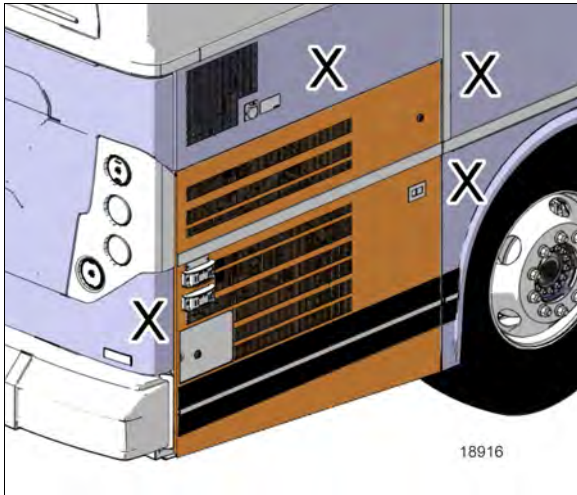

FIGURE 95: FLUSHED SURFACES
11. Adjust the both rubber stoppers to make all the surfaces marked with an "X" in Figure 95 flush with the door surface within a tolerance of $\pm 1\text{mm}$.